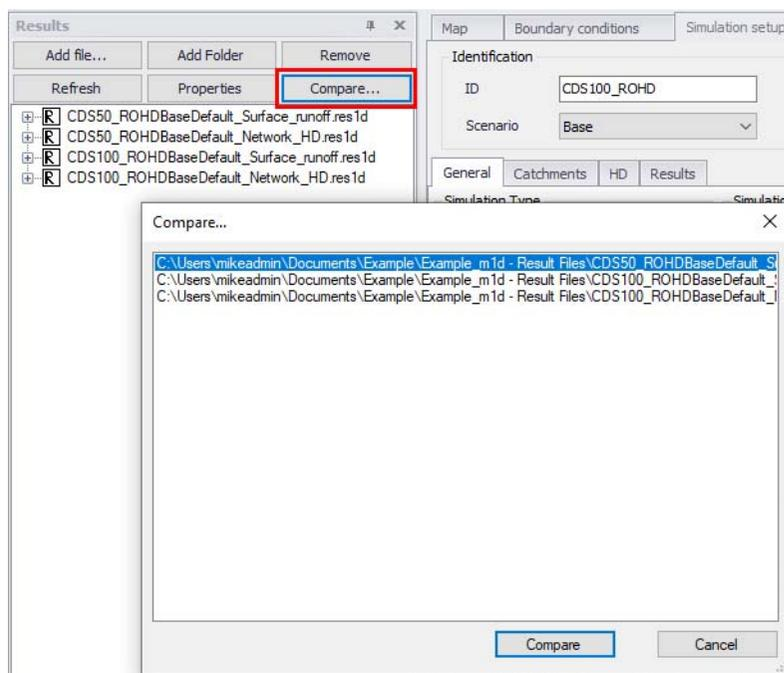

Figure 19.83 Loading result files for comparison of results
- Select one of the result file layers (i.e. File A) on the Results manager, and click on the ‘Compare...’ button at the top of the panel (Figure 19.83). This will launch a dialog listing other loaded result file layers available for comparison with the currently-selected layer.